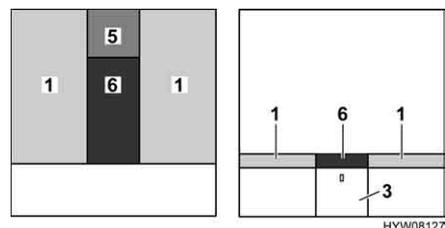

Fig. 92 After conversion
- Place the additional cushion (Fig. 92,5) on the bedside locker.
- Place the additional cushion (Fig. 92,6) between the mattresses (Fig. 92,1).